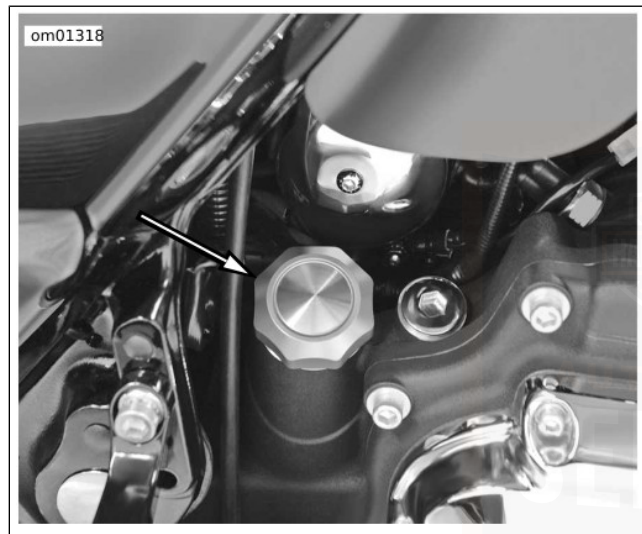

Figure 45. Engine Oil Filler Cap
2. See Figure 45. Remove filler plug/dipstick and wipe off the dipstick. Insert the dipstick and tighten into the fill spout.
3. Remove the dipstick. Using the gauge marked FULL HOT VEHICLE UPRIGHT on the dipstick, verify the oil level. The correct oil level should register midway (2) between the FULL and ADD marks on the dipstick.